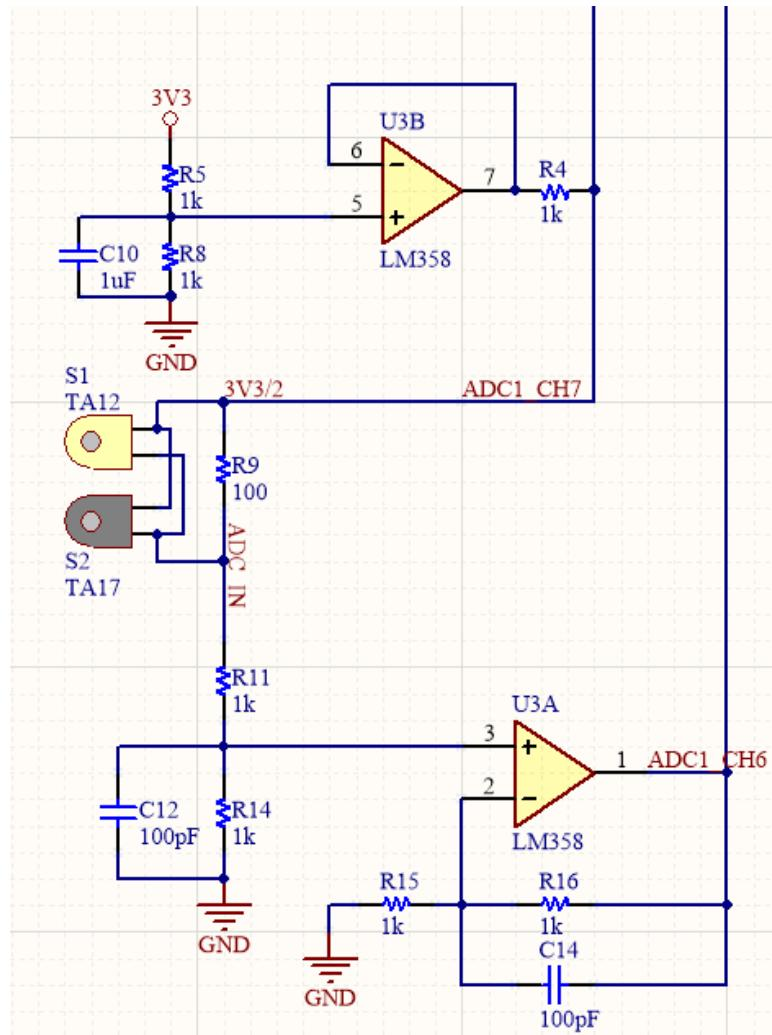

Figure 1.5: ADC Input
In this sensor part, we use two opamps which are packed in one IC LM358. IC LM358 includes two opamps. We use one to create a reference voltage, while we connect the second opamp with two current sensor TA12 and TA17 as shown in Figure 1.5.
- [3] In Figure 1.5, what is the voltage of ADC1\_CH7? of ADC1\_CH6?
- [4] In Figure 1.5, we apply a low pass filter to the signal ADC\_IN. What is the cutoff frequency of this low pass filter? If we want to set a cutoff frequency is about 10kHz, what should we change in the circuit of U3A?